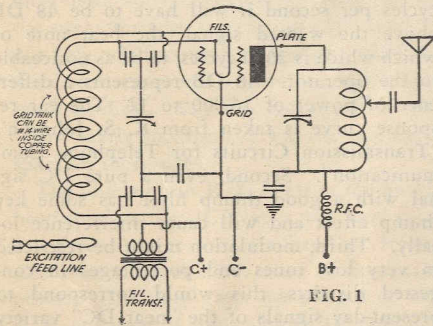

FIG. 1
In Fig. 1 is shown the selectivity curve of a modern superheterodyne receiver suitable for the reception of either fone or CW signals. It is not as selective as the single signal receiver, a selectivity curve of which is shown in Fig. 2, but is much sharper than the average ham receiver which we might define as a tuned RF set using a regenerative detector and one stage of tuned RF amplification. In Fig. 1, (A) represents an ICW signal which is just on the threshold of being audible. This ICW signal is shown with its carrier in the center and a sideband on either side of the carrier. For a signal modulated 100 per cent, the sidebands will be weaker by 6 DB than the carrier. If the signal were modulated only 50 per cent, then the sidebands would be weaker than the carrier by about 12 DB. Since the slope of the receiver's selectivity curve is not at all vertical, it is seen that as the receiver is tuned into this modulated signal the carrier is audible at the same time and on the same point on the dial as the first sideband. In other words, if the receiver is tuned to the pure DC signal, (B), and the ICW signal starts up, the sideband interference from (A) is no greater than the carrier interference from (A), and if (A) were a pure DC signal with the same carrier amplitude as it now has, the interference with (B) would be just as great as the ICW interference. Now suppose that (A) and (B) are very close together and that (B) is of the same strength as the carrier of (A). (A) is modulated and has sidebands, (B) is unmodulated but due to the difference in the characters of the notes it will be easy for a good operator to copy either one or the other, which he could not do if both signals sounded exactly the same.
From Fig. 1 it is seen that a modulation tone of about 500 cycles per second is allowable without increasing the interference. If we take into consideration the fact that this receiver has a sharper selectivity curve than the average ham receiver, it will be seen that modulation tones of up to about 500 cycles per second should not be unreasonable. If modulation tones higher than 500 cycles per second are used it is seen from (C) of Fig. 1 that our superheterodyne receiver would pick up the first sideband before the carrier is audible, and so the signal could be called broad for this particular set.
From the foregoing we can see that the amount of interference caused by a good modulated note in a given receiver depends on the slope of the selectivity curve of that receiver. If we were to take the slope of our superheterodyne receiver of Fig. 1 as an average of ham receivers, then modulations of up to 500 cycles per second should not be unreasonable, and even higher modulating tones might be used if the percentage of modulation is reduced. For reasons to be shown later, it would probably be best not to use tones much higher than 500 cycles per second, regardless of how low the percentage of modulation.
There is one place where modulated notes would give trouble and we should examine this case to see just how serious this might be. In Fig. 1 (D) represents a very strong local signal which will be heard even though several kilocycles removed from the desired signal. If this signal were pure DC and had no key thumps, its beat note beating with our oscillating detector would be quite high in frequency and therefore would not interfere. If this signal is modulated, its beat notes will still be quite high but the beat note between carrier and sidebands will be audible and interference will result locally. There are several answers to this objection. First, since we have agreed to keep our modulating frequency low, 500 cycles or lower, it would be
FIG. 1 shows a circuit of the grounded-grid type for use with the new Heintz & Kaufman Type 354 Gammatron. When this circuit is used it is not necessary to neutralize, because the input circuit is shielded from the output circuit by the grid. Thus a rapid change in frequency can be made. The plate-to-filament capacity of the 354 Gammatron is negligible, and therefore its use is permissible in the circuit shown. However, this circuit also has